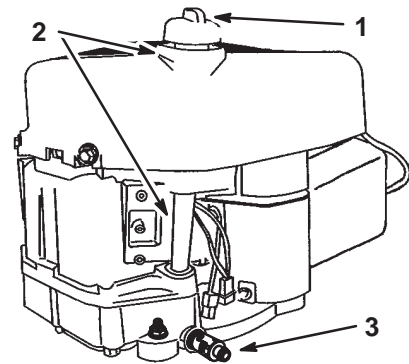

Figure 20
2. Clean around the oil dipstick (Fig. 20) so that dirt cannot fall into the fill hole and damage the engine.
10. Clean around the oil dipstick and unscrew the cap (Fig. 20).
11. Slowly pour approximately 80% of the specified oil into the filler tube (Fig. 20). Refer to Servicing the Engine Oil, page 23.